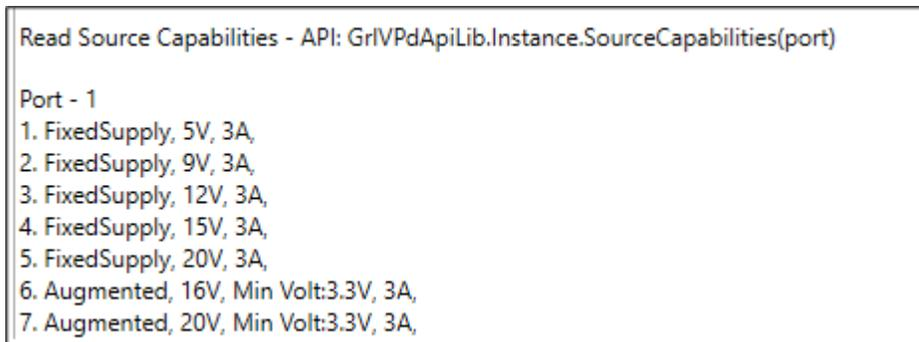

Figure 28. DUT Source Capabilities Detected and Read Example
3. The Source Capabilities are read from the DUT and observed in the output window/ API activity log pane as shown in Figure 28 example below.